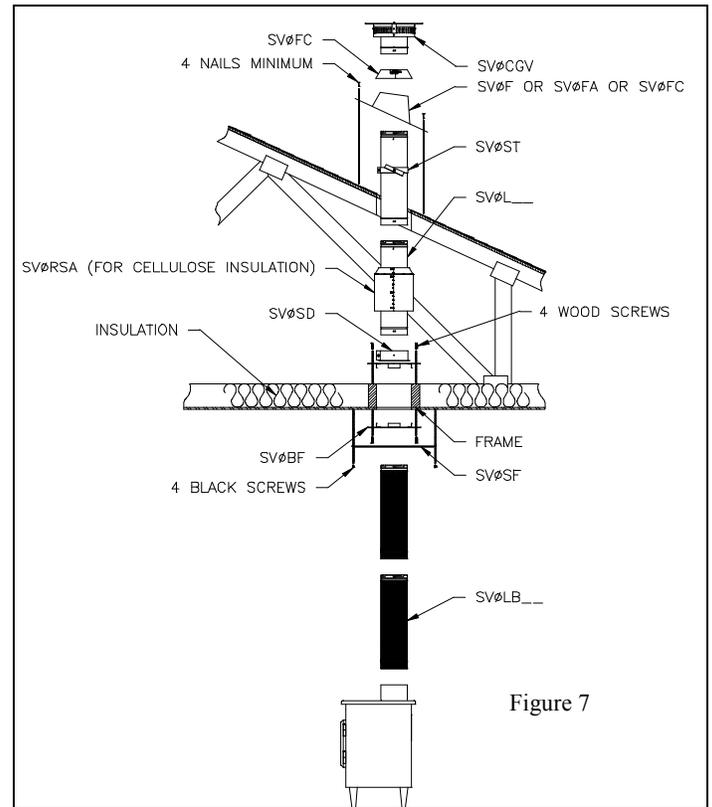
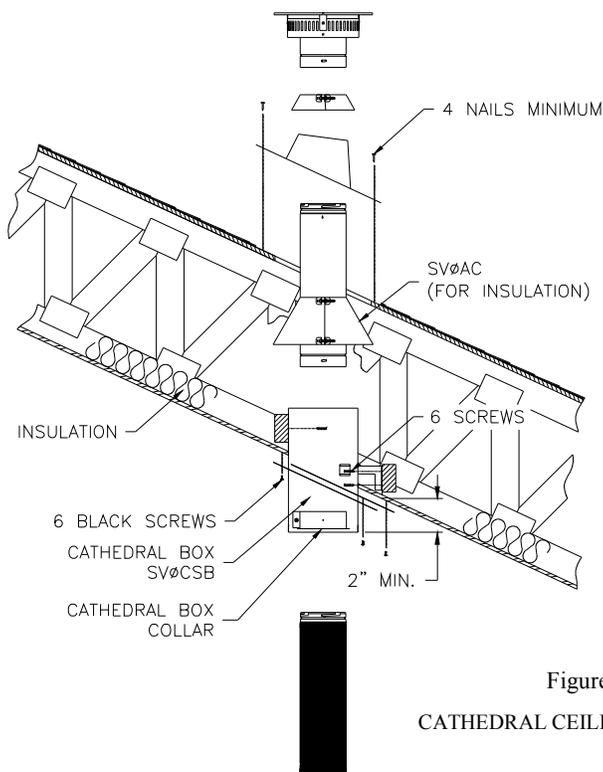

Figure 7
Figure 11
6. In order to support the vent, use a floor support (model # SVØSD) in the attic. Do not install more than 40 feet of 4" diameter vent pipe, or 30 feet of 5" diameter vent pipe, per floor support! Slide the plate of the floor support on the vent length passing through the ceiling and screw it on the frame. The floor support is to be secured to the vent with minimum of four (4) screws. The square tabs of the plate must be directed downward as shown on fig. 7. Tighten the collar around the vent. The collar must lean on the plate, flat side down. When insulation is used in the attic, install an attic radiation shield above the floor support. Note: A square cathedral support may be substituted in this application as indicated in fig. 11.
4. Insert the cathedral support (model # SV-CSB) in the opening; the base of the support must extend at least 2" below the ceiling. Using a level, ensure that the support is well aligned vertically and horizontally, then screw it on the framed opening (See figure 11 below).